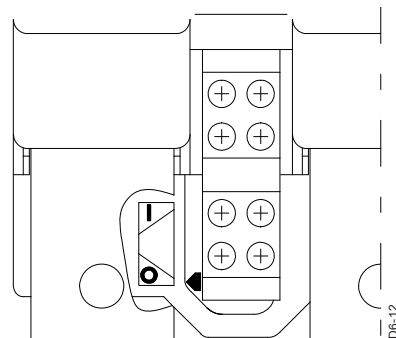

Fig. 2
- Before feeding the control circuit verify that the supply voltage is correct and it corresponds to the voltage indicated on the coils and feeder group. Verify that the voltage variations are included in the range of 0,85 ... 1,1 Uc during work. The open or closed position of the contactor can be verified through the suitable indicator situated on the frontal side between T1 and T2 terminals (fig.2).